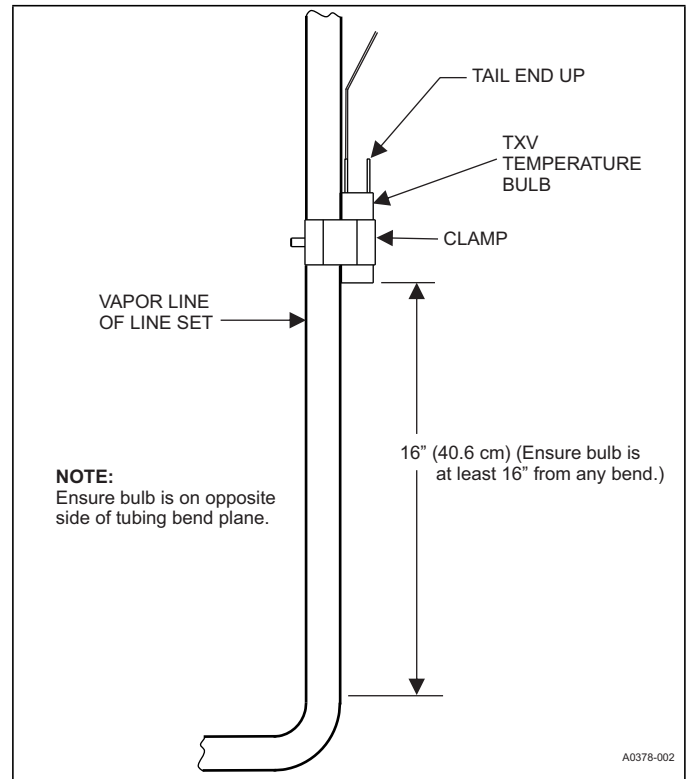

FIGURE 19: Vertical Temperature Bulb Orientation
- b. If bulb installation is made on a vertical run, locate the bulb at least 16" (40.6 cm) from any bend, and on the tubing sides opposite the plane of the bend. Position the bulb with the tail of the bulb at the top, so that the bulb acts as a reservoir. See Figure 19.